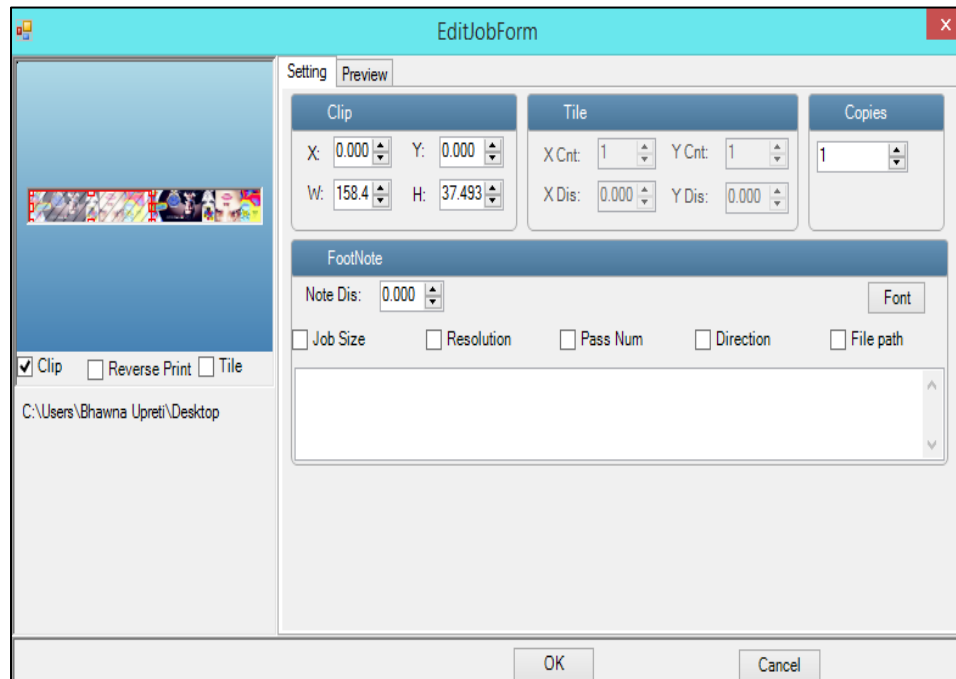

Fig 40: Displaying the Edit Job Form Window
Step 5: After making the desired changes, click on the **OK** button to apply the settings (Refer to Fig 40).